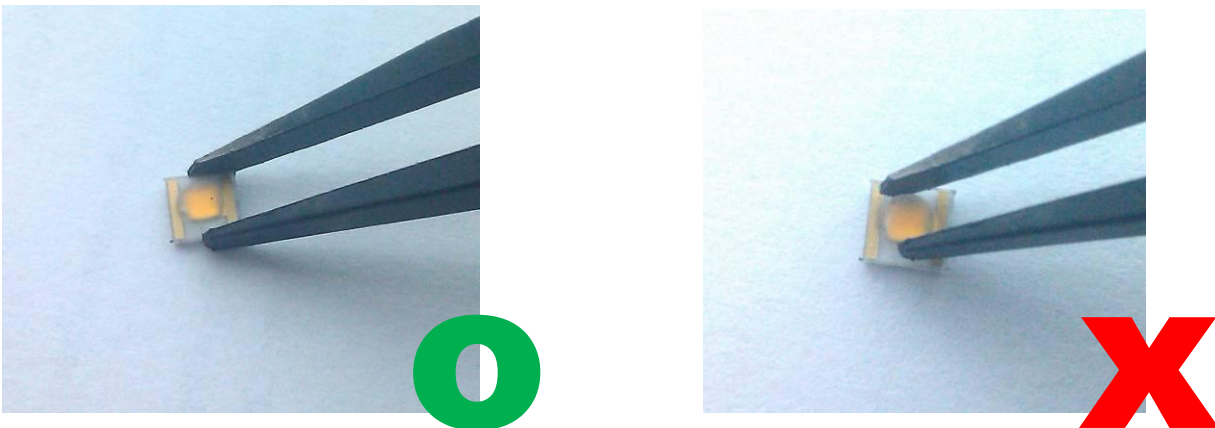

Figure 6. Proper use of tweezers
2. If manual pick and place is to be applied, only plastic tweezers should used. Do not touch the lens with the tweezers or fingers. Use tweezers to grab the C3535 Emitters at the base gently and put onto the PCB with solder paste carefully, as in Figure 6.